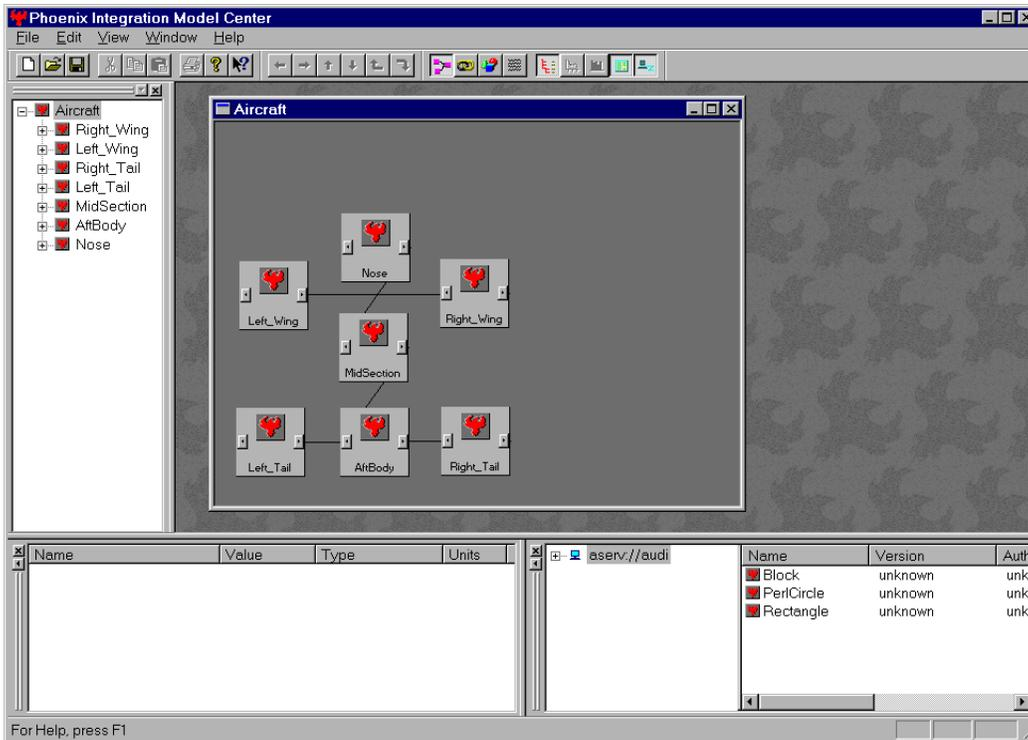

Figure 35. ModelCenter with a new configuration window opened
2. Open the saved UAV model created in Example 1. If you did not complete this lesson you can open the file, example1.pcx, which accompanied the tutorial. It can be found in the tutorial/saved directory.* The main window should look like the view shown in Fig. 35: